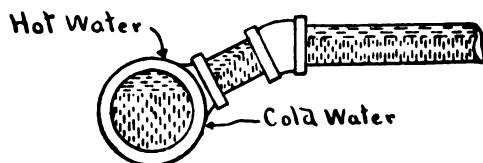

Fig. 50.—Branch Taken From Main With 45 Degree Connection.
A. From the top of the main with a 90 degree ell or at an angle of 45 degrees as illustrated by Fig. 50. The 45 degree connection is preferred.